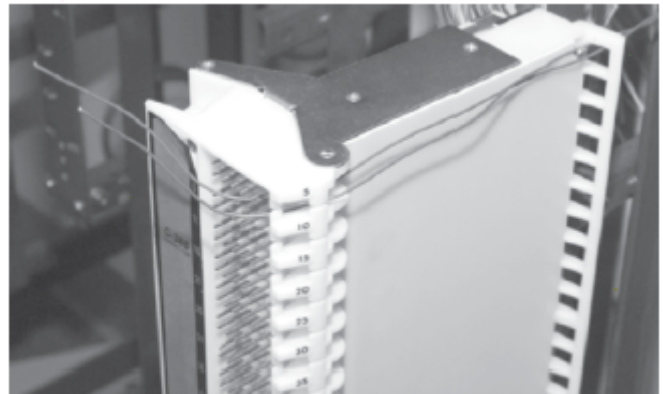

Figure 17
- Insert five pairs of jumper wires through the rear fanning strip hole, feed them through the respective slit in the front fanning strip, dressing wires back and out of the way in the first "lock" position of the front fanning strip hole (Figure 17).